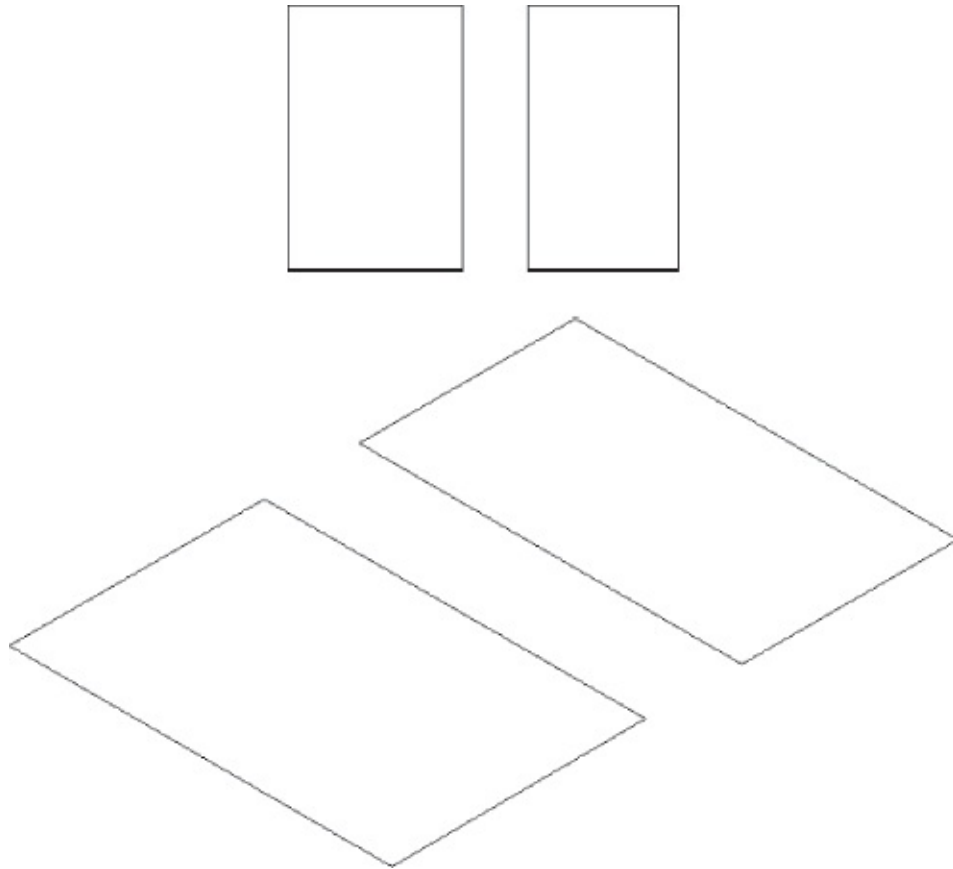

FIGURE 21.4 The chair seat and back in the Plan (top) and Isometric (bottom) views
2. Select SW Isometric from the 3D Navigation drop-down list on the Home tab's View panel. You can also type `-V SWISO`. This gives you a 3D view from the lower-left corner of the rectangles, as shown in Figure 21.4. Zoom out a bit to give yourself some room to work.